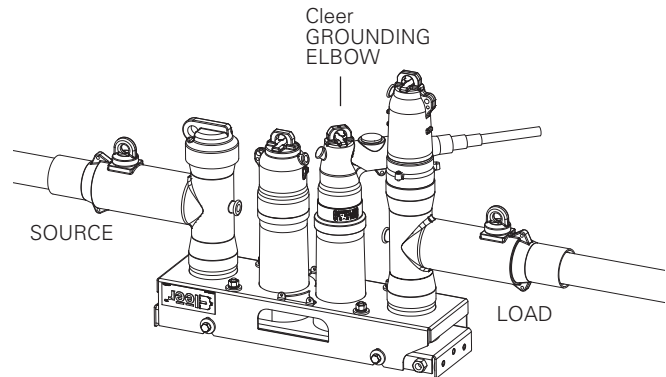

Figure 7. Install Cleer grounding elbow
- Using a clampstick, install Cleer grounding elbow on load-side 600 A loadbreak bushing. See Figure 7.